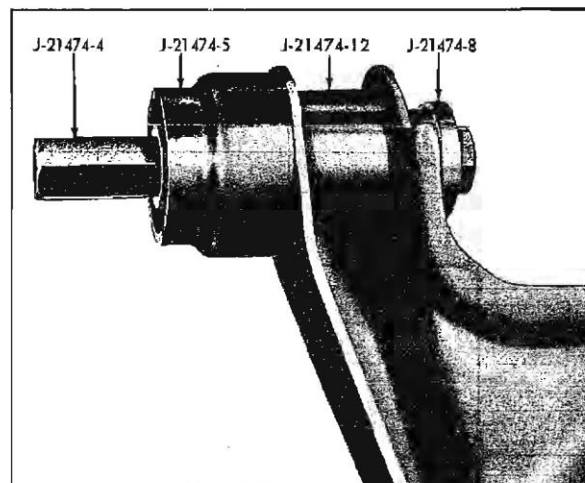

Fig. 3-20 Removing Bushing from Control Arm
3. Remove bushing, using tool J-21474 as shown in Fig. 3-20.